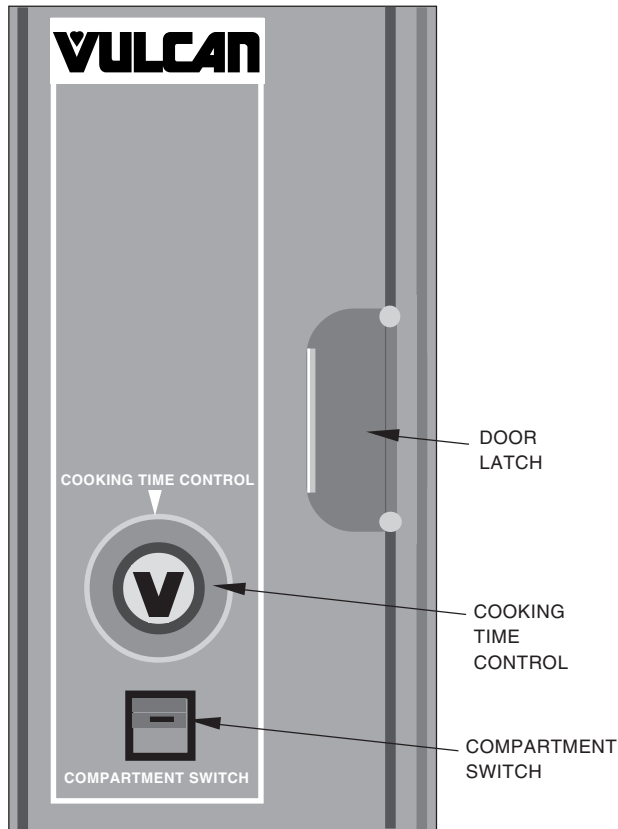

Fig. 6
STANDARD AUTOMATIC COMPARTMENT CONTROLS — VHL2 & VHL3 STEAMERS (Fig. 6)
- Gas pilot pressure dropping more than 0.25" W.C. indicates an insufficient supply. Larger diameter (ID) gas supply piping to the steamer must be used.
14. Pull the steam control handle forward and lock it by pulling down. This closes the drain. Steam enters the compartment as air is vented; a hissing sound is heard. Press the top of the Compartment Switch (Fig. 6 or 7, page 20 or 22) to start the timer.